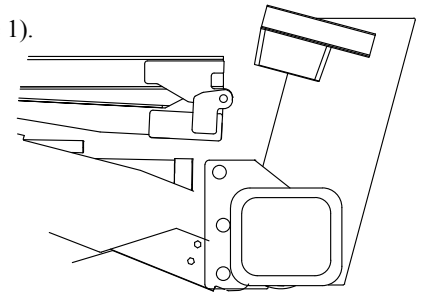

Figure 1: Platform Folded and Level.
1. **LOWER** the platform from the stowed position until the springs are loose on the platform (Figure 1).